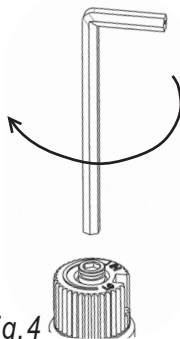

Fig. 4
- 20) Using the Allen wrench as shown in Fig. 4, rotate the screw clockwise until snug, do not overtighten.